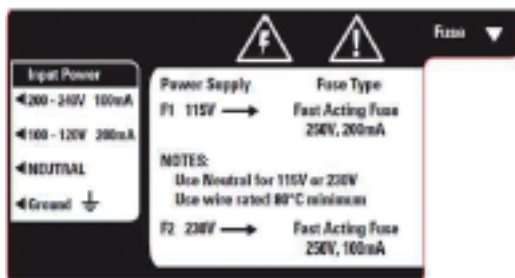
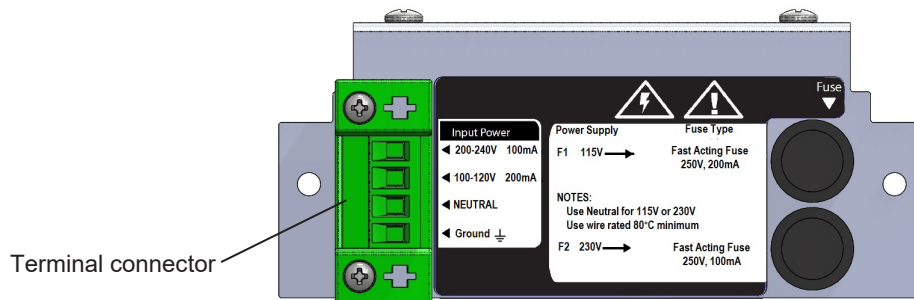

Figure 2.3 Power Supply
Figure 2.5 Terminal Connector Location
- Power supply – Refer to Figure 2.3.
5. Wire the power cable to the green screw terminal connector from the options kit. Select correct terminal for hot conductor depending on line voltage, insert ground wire into the correct terminal and connect the other cable to the neutral terminal. Refer to Figure 2.5 for terminal connector location.
6. Plug the terminal connector into the power supply. Refer to Figure 2.3.
7. The universal power supply uses both fuses in the fuse kit. Install by inserting the fuse in the fuse holder and secure it using the twist and lock method. The fuses are clearly labeled with the appropriate voltages for your system. Refer to Figure 2.3 and Figure 2.5 for the correct fuse holder positions. Refer to the table below for fuses required.